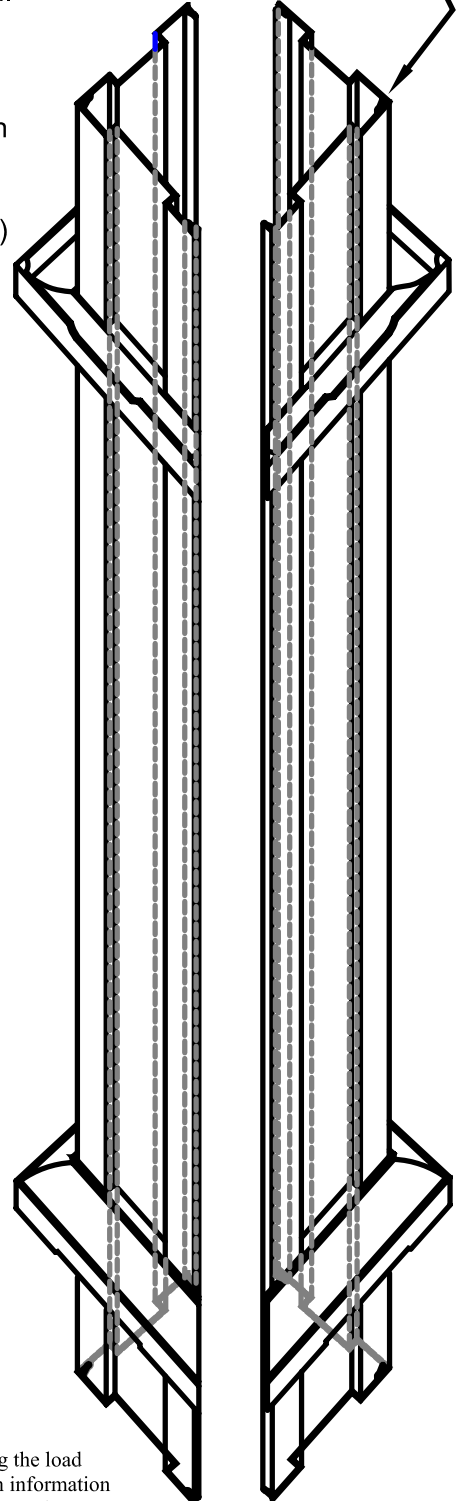

Fig. 2
Step 3. Secure one half of the column to the overhead beam (top) and slab (bottom) with the provided angle brackets. (Fig. 2).